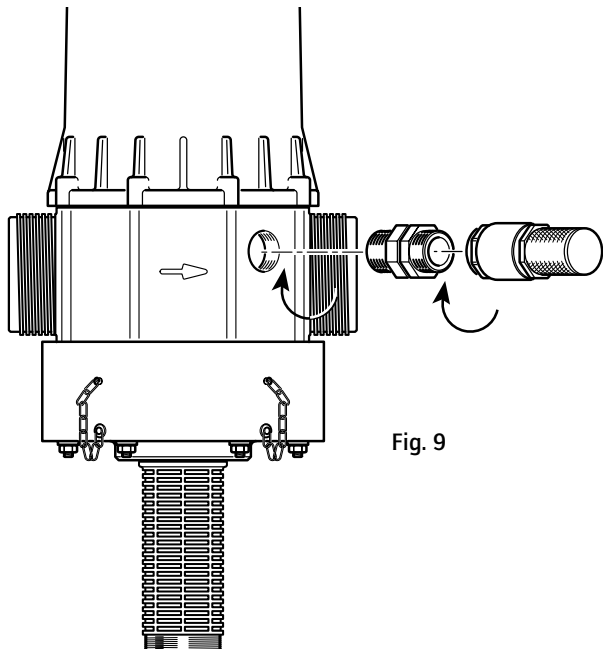

Fig. 9
- This automatically recreates normal atmospheric pressure in the Dosatron in the event of an accidental vacuum in the line (**Fig. 9**)*.